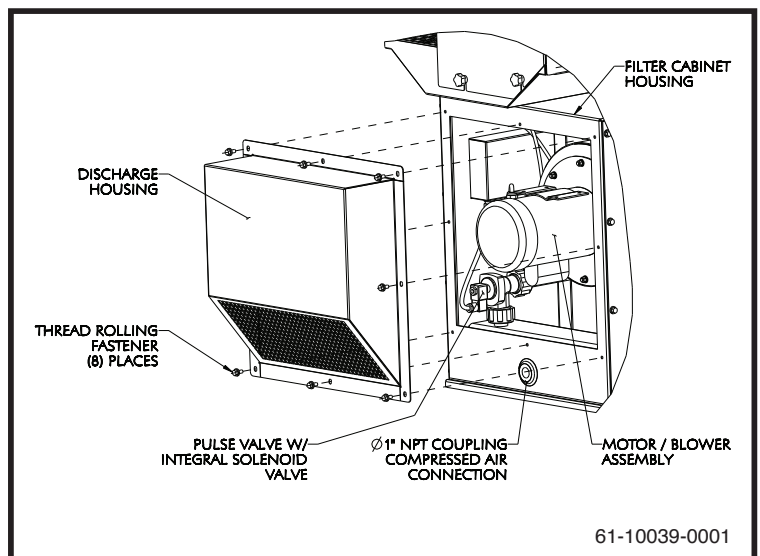

Figure 7. Rear Access
Provide a clean, dry, 90-110 PSIG compressed air supply to the compressed air manifold. The supply coupling (1" NPT) is located on the lower center of the unit's rear panel as shown in Figure 7. A reducer bushing may be required for your supply line.
5. The discharge plenum on the V Series collector can be rotated in 90 increments to direct the discharge air in multiple directions. The discharge housing will be factory installed with the discharge pointing towards the floor as shown in Figure 7.
To gain access to the direct drive motor/blower you must first remove the discharge air plenum as shown in Figure 7.